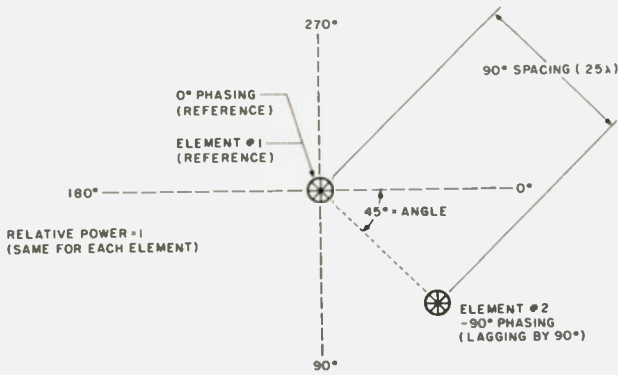

Fig. 2.
To help clarify any of the above programming steps, refer to Fig. 2 and also to photo A which is the polar plot of the well-known two-element beam, with (1) 90-degree lagging phase, (2) equal power division, and (3) placed at 45 degrees in direction and $.25\lambda$, or 90° , from the reference element. The photo shows the cardioid pattern that accompanies the two-element beam. Fig. 2 shows also that the beaming action is at 45 degrees on our coordinate system, with the second element being placed in that direction and having a phase difference of 90